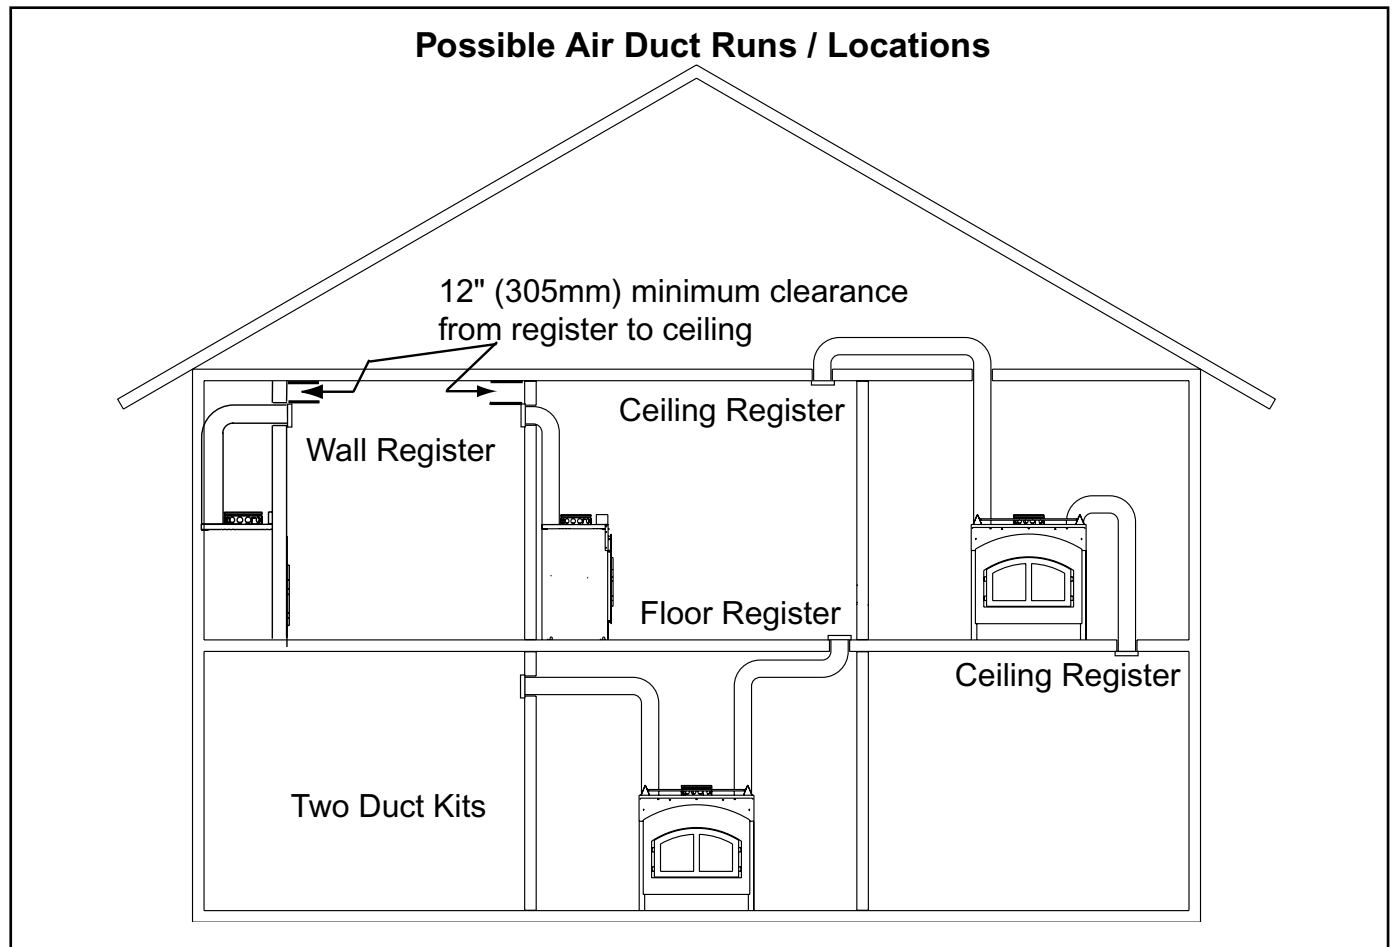

Figure 1
The Heat-Zone-Wood accessory kit conveys warm air from the fireplace through air duct(s) to remote locations in the same room or other rooms of the building. See Figure 1. One or two Heat-Zone kits can be installed on the fireplace.
*(See Figure 1 on page 1).